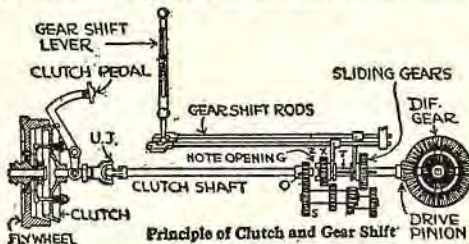
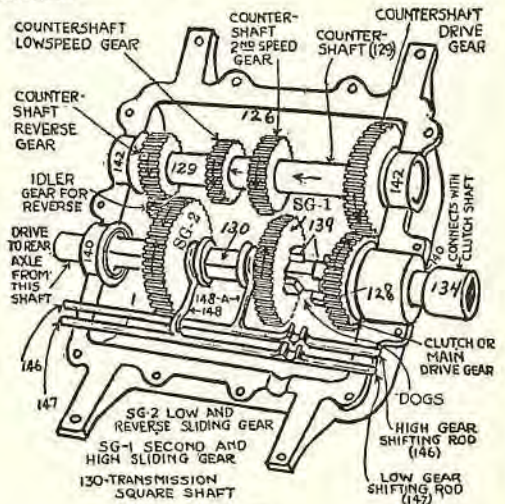
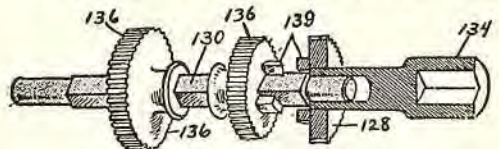

Fig. 10
Fig. 11.
Fig. 12. Transmission square drive shaft (130) and sliding gears (136).
The relation of the gears to the clutch is shown in Fig. 10. The principle of the selective type of transmission is shown on pages 27 and 28.
Referring again to Fig. 10, note that the power is transmitted from the fly wheel to the clutch, thence from the clutch shaft to gear (O and S), through the sliding gear for first or second speed. For high speed, small dog-clutches on the sliding gear (X), on the square shaft (T), mesh with dogs on gear (O), which makes the drive direct to the rear axle. See also Fig. 12.
How the change of gears is obtained. Note, in Fig. 12, the square shaft (130) is independent of the clutch shaft (134). Also note, in Fig. 11, that the gear (128) and the driven gear on the countershaft, as well as the countershaft itself (129), always turn together. Thus power from the engine would end at shaft (129), providing sliding gears (SG-1 and SG-2) were in the position shown, which is "neutral" position.
Neutral position means the sliding gear is not in mesh with the gear that drives it. Therefore, with the position illustrated in Fig. 11, we could not drive the rear axle, even though the engine was running and the clutch "in."
The transmission in Figs. 11, 12 and 13 gives a clear explanation of the relation of one part to another.
The modern transmission now uses internal gears instead of “dogs.” For instance, see Fig. 18, page 28. Note that instead of “dogs” (139, Fig. 12), the gear (8, Fig. 18) has internal teeth which mesh with a smaller gear on the side of gear (9).
The gate type: The gate type is shown in Figs. 14 and 15. A simplified explanation as to how the shift lever operates in relation to the shift bars (146 and 147) and shifting or sliding gears (SG-1 and SG-2) will be made clear by referring to Figs. 11 and 14.